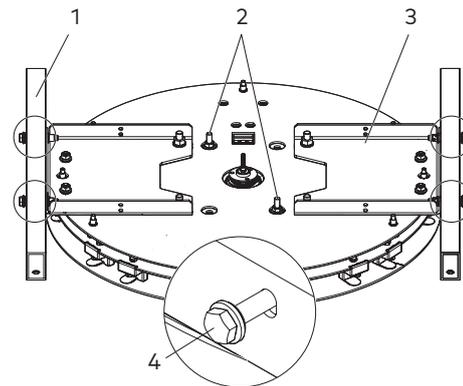

Fig. 61 Prepared operator
4. Remove the transport braces (Fig. 61/2).
5. Turn over the operator so that the adapter plate faces up. Secure the 2 braces (Fig. 61/1) to the 2 angle plates (Fig. 61/3) using the screws so that the screw is at the upper end of the slot (Fig. 61/4). (Screw pack 9501900275600). Observe the screw tightening torques.